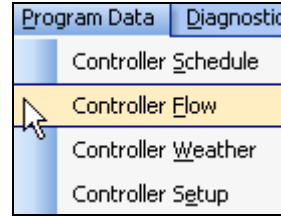

Figure 16.3.1A
1. In the toolbar at the top of the screen select **Program Data** then scroll down to **Controller Flow** and click on it (Figure 16.3.1A).